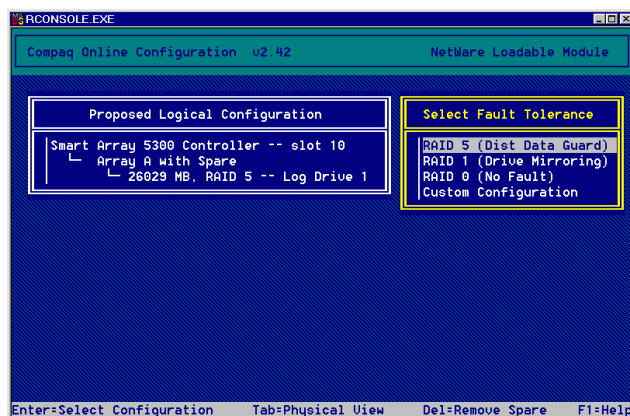

Figure 7-21: CPQONLIN auto-configuration wizard
- If no logical drives are configured for the controller, the auto-configuration wizard screen (see Figure 7-21) is displayed.